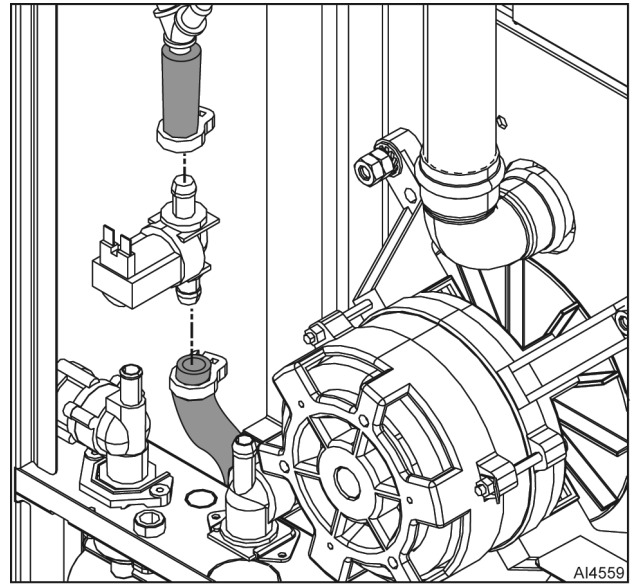

Fig. 52
4. Disconnect electrical cable from solenoid valve Yv (Fig. 52).